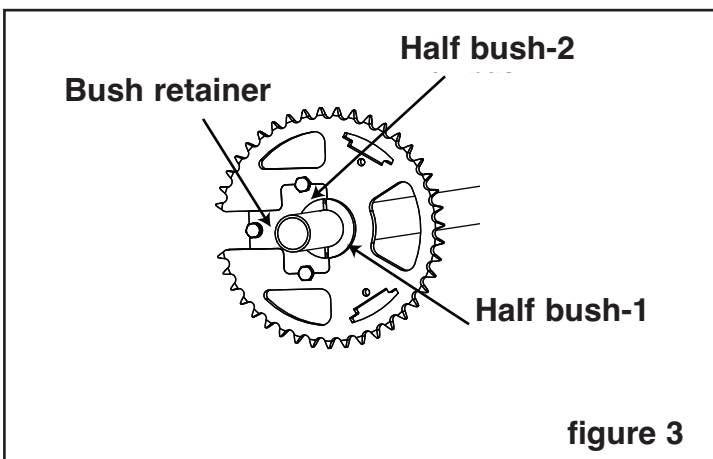

figure 3
3. Slide sprocket incl. half bush over door shaft and insert bush retainer incl. half bush and fasten to sprocket using M8 bolts and M8 Nyloc nuts as shown in figure 3. Ensure nuts are firmly tightened.